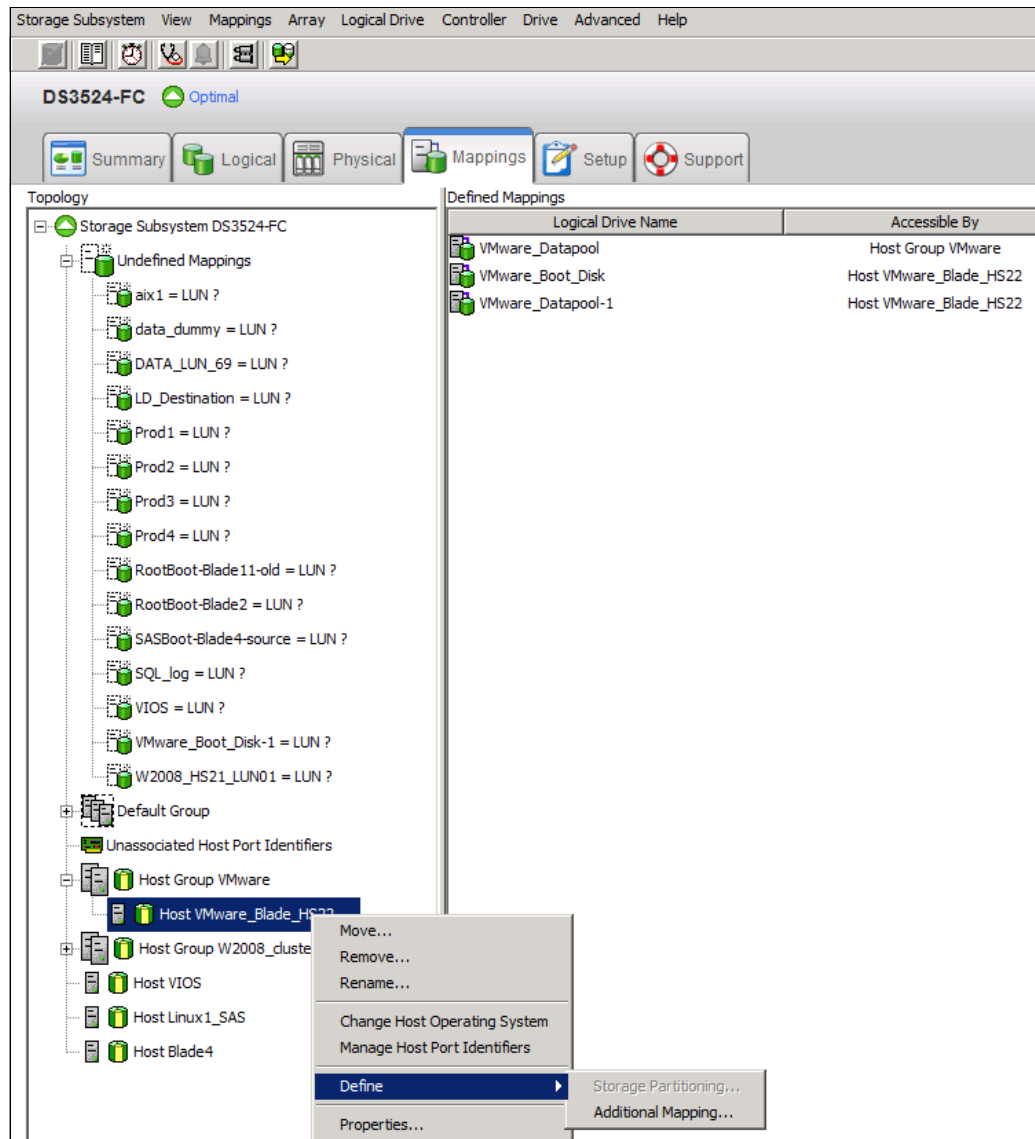
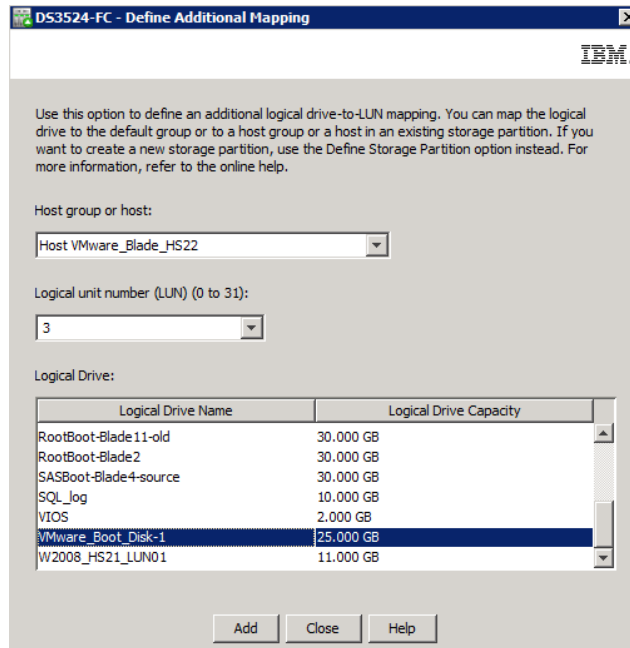

Figure 2-24 Define additional mapping from Subsystem Management
Figure 2-25 Define Additional Mapping
3. Right-click and select **Define** → **Additional Mapping**, as shown in Figure 2-24.
4. In the Define Additional Mapping window that opens, as shown in Figure 2-25, follow these steps:
In the examples shown in Figure 2-24 on page 36 and Figure 2-25, the FlashCopy logical disk VMware_Boot_Disk_1 is made available to the Host VMware_Blade_HS22 host. This availability enables the Host VMware_Blade_HS22 to access and mount the disk as part of its own file system.